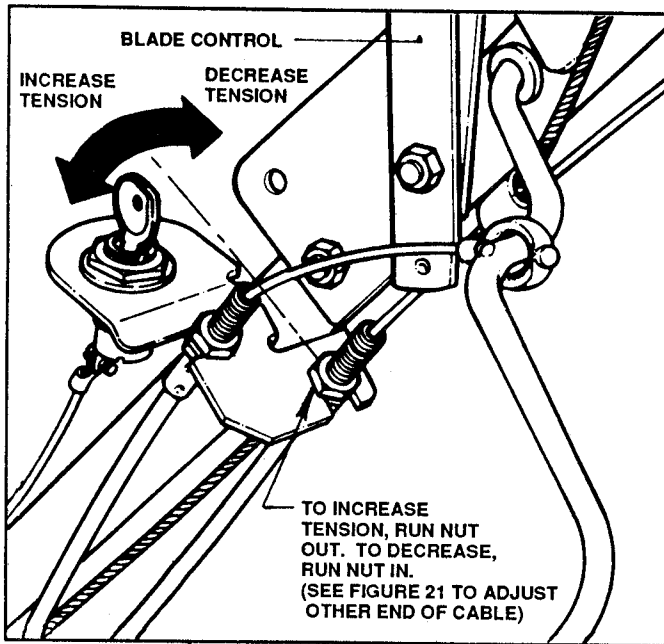

FIGURE 20
2. Measure length of the blade cable spring with the **BLADE CONTROL** in the "OFF" position, then measure again with the **BLADE CONTROL** in the "ON" position. The spring should stretch about 1/4" from "OFF" to "ON" position. Spring extension can be adjusted at either the fitting on the ignition switch plate or at fitting on the deck bracket. Shortening the fitting extension tightens the belt. When properly adjusted, the spring should stretch about 1/4" with **BLADE CONTROL** engaged and there should be slack in the cable with the **BLADE CONTROL** "OFF". **If there is no slack, the blade brake cannot engage.** Check the blade brake as described in Step 3. See Figures 20 & 21.